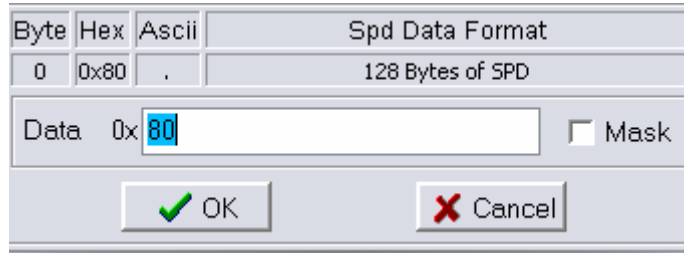

Fig. 39
Step 3: By double click on the byte that is desired to edit, a data input window pops up for data entry. (Fig. 39)